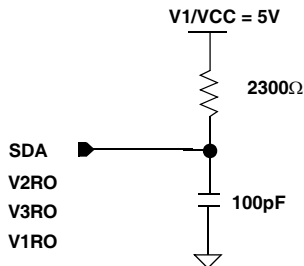

FIGURE 25. EQUIVALENT AC CIRCUIT
| Output Load | See Figure 25 |
2. See Figure 25 for equivalent load.